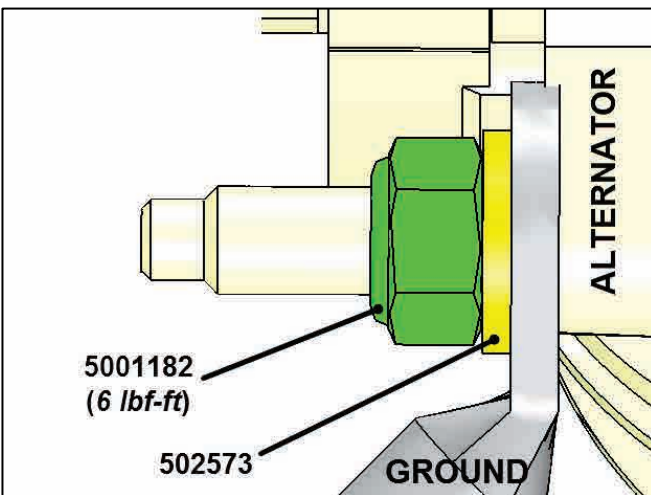

Figure 3
4. Apply prescribed torque (Fig. 3)